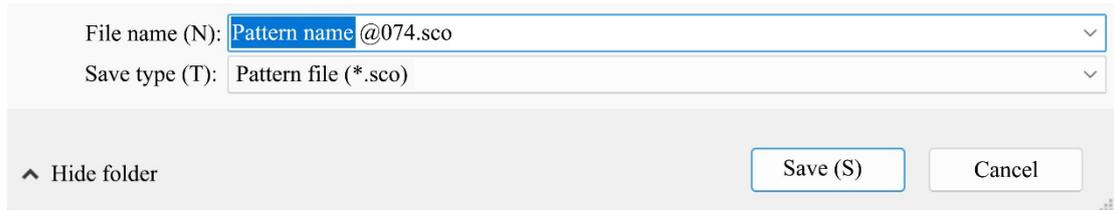

Fig. 7.5.2c File Saving Settings
② Enter the name of the pattern file and save it as a pattern file (*.sco). **Note: User-defined names must be entered before @, and the number after @ is the pattern file number, which is automatically generated by the system.** As shown in Fig. 7.5.2c below.